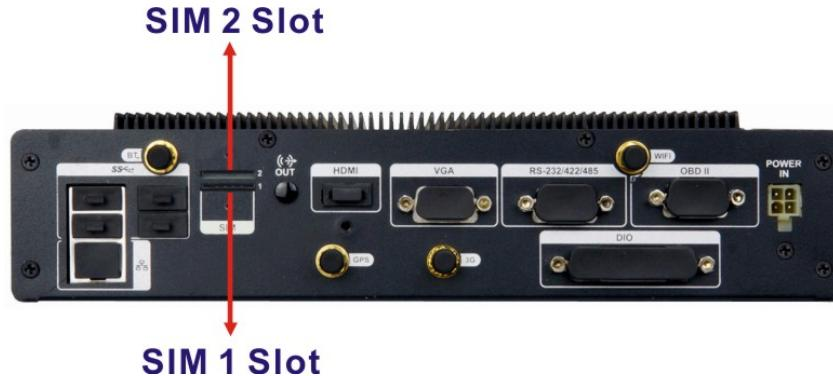

Figure 3-8: SIM Card Slot Locations
Step 3: Locate the SIM card slots on the rear panel (**Figure 3-8**).